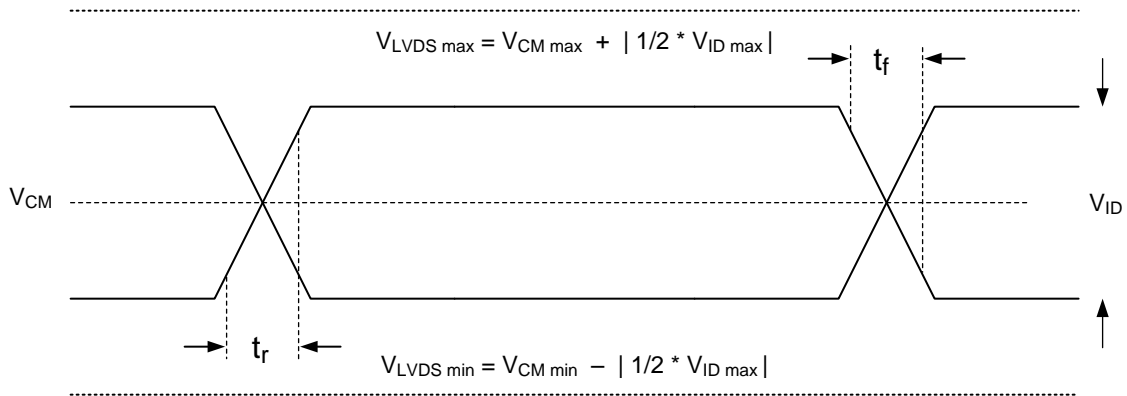

Figure 5. LVDS Waveform Requirements
(10) See Figure 5 LVDS Waveform Requirements.
(11) Simultaneous exposure of the DMD to the maximum Recommended Operating Conditions for temperature and UV illumination reduces device lifetime.
(2) See Figure 5 for Timing Requirements for LVDS.
(3) Channel C (Bus C) includes the following LVDS pairs: DCLK_CN and DCLK_CP, SCTRL_CN and SCTRL_CP, D_CN(15:0) and D_CP(15:0).
(4) Channel D (Bus D) includes the following LVDS pairs: DCLK_DN and DCLK_DP, SCTRL_DN and SCTRL_DP, D_DN(15:0) and D_DP(15:0).